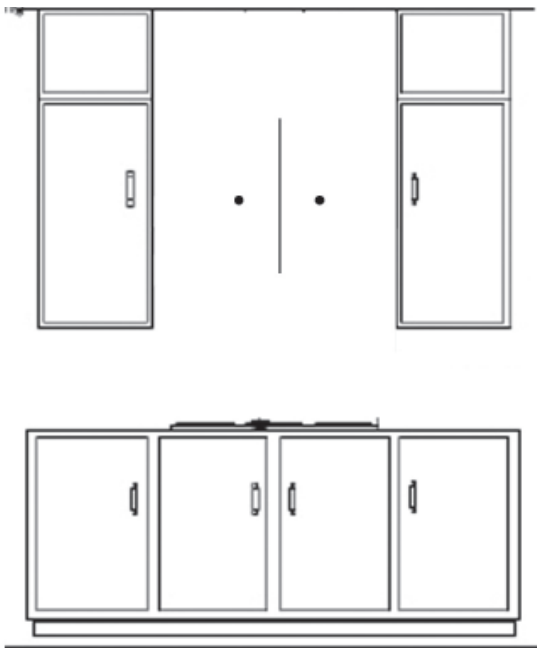

Figure 1
1. Find the center of the wall where you are installing the hood. Make sure there is sufficient bracing to hold the weight of the hood. Mark your center line and measure out from the center to find your two mounting points. Make sure your mounting points are level when you mark them. It is recommended to install the hood directly into wood supports. *Figure 1*
2. Mark the mounting points and install the two mounting screws provided leaving the heads out $\frac{1}{4}$ " to mount the hood. *Figure 1*